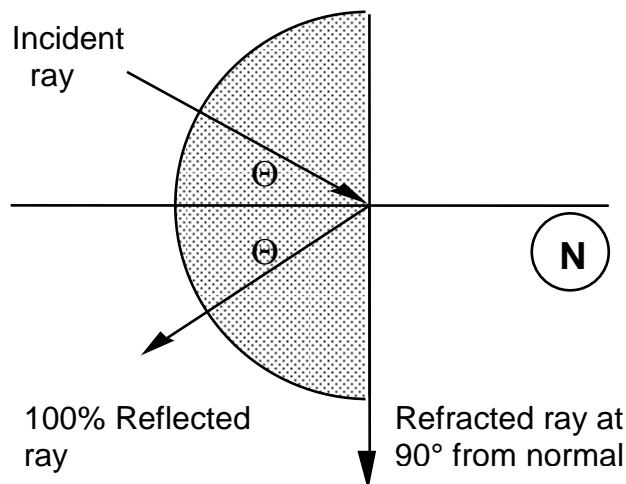

Fig. 4: Total internal reflection; the angles  $\theta$  depend on the material.
**Extra Credit:** take and analyze refraction measurements like steps 3-4 in the geometry of Fig. 4.